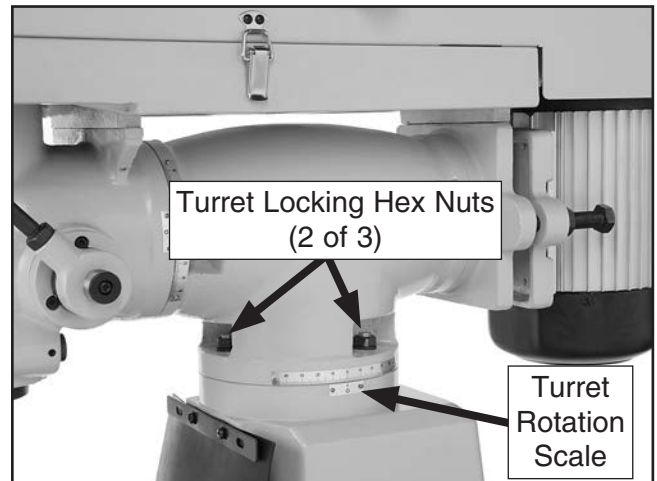

Figure 21. Turret rotation locking hex nuts (2 of 3 shown).
2. Loosen the three locking hex nuts on the turret (see **Figure 21**).